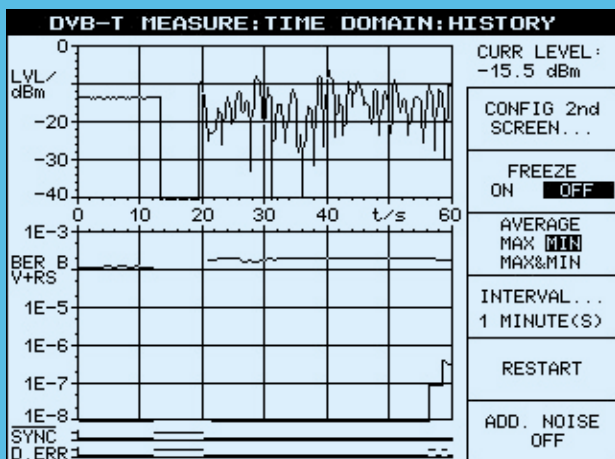

Fig. 9: History function
- ◆ Long-term monitoring of dedicated parameters through the history function (Fig. 9), monitoring time is selectable from 60 seconds to 1000 days